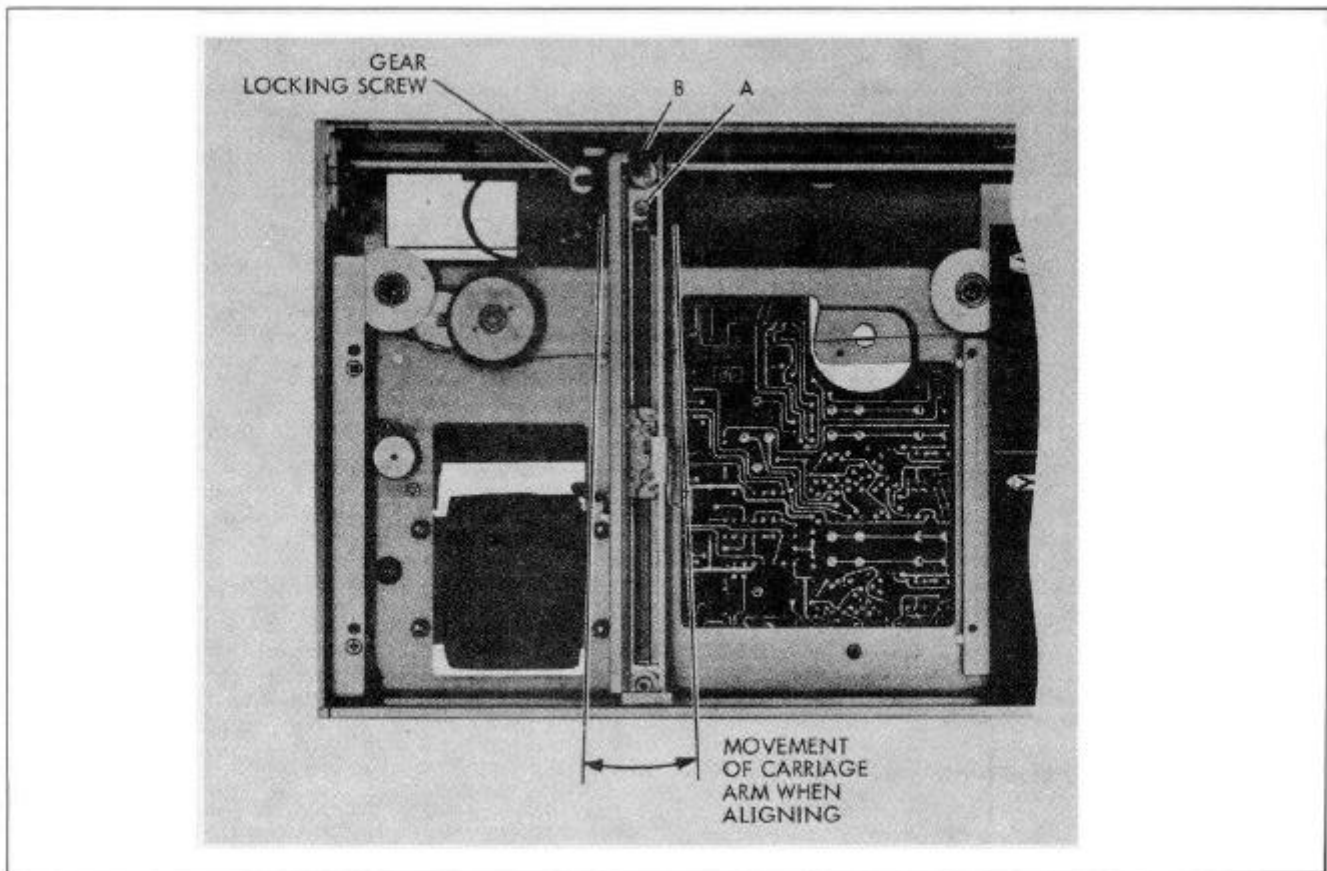

FIGURE 5-19. Y-AXIS ALIGNMENT
- e. Partially loosen 2 shouldered screws, A and B, at upper end of arm, see Figure 5-19.